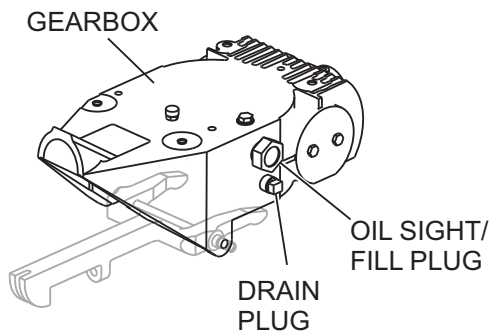

Figure 18. Gearbox
1. Determine if the **gearbox** oil is low by removing the oil plug located on the side of the gearbox. This plug will be marked by the "**check**" decal. See (Figure 18). The correct level of the lubrication oil should be to the bottom of the fill plug.